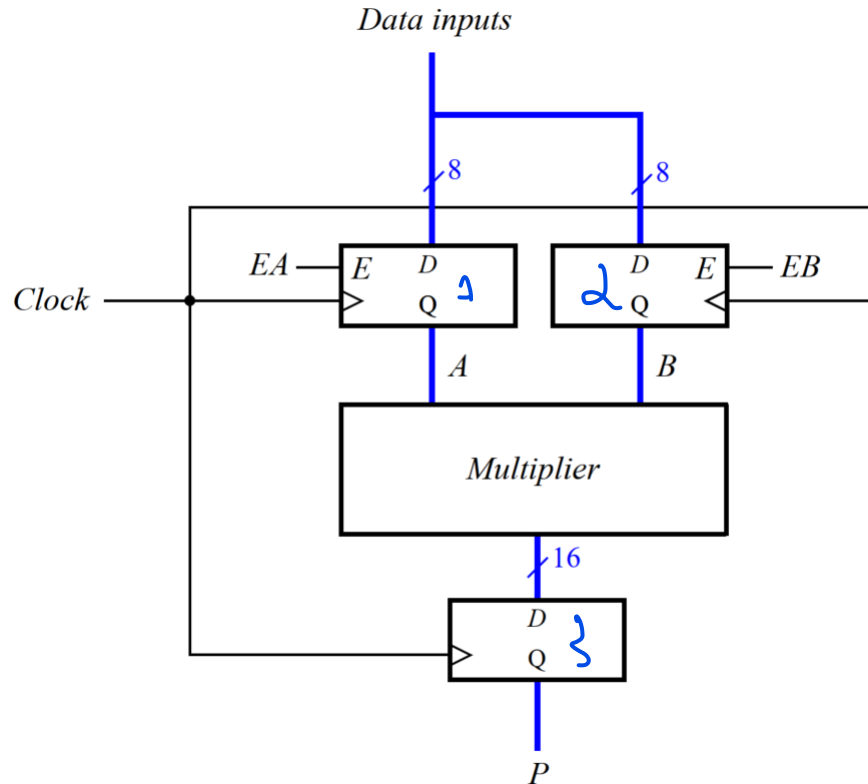

Figure 2: A registered multiplier circuit.
Requirement: The circuit in Figure 2 shows an 8 x 8 multiplier circuit with registered inputs and outputs. Write System Verilog code to implement this system.
- In exercise 2, pre lab 3, you have write the multiplier. Write System Verilog module that instantiates the instances of this multiplier and three registers to describe the circuit given in Figure 2.